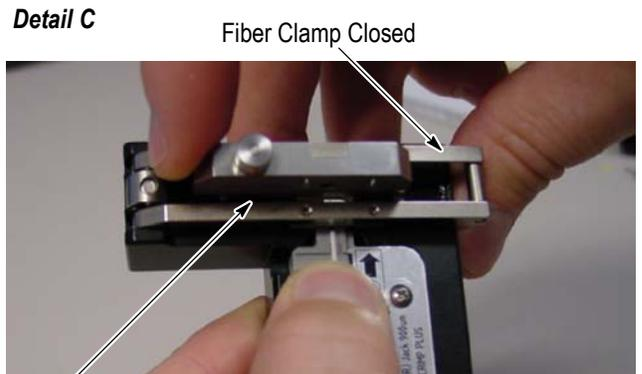

Figure 4: Crimping
C. Crimping (Figures 4 and 5)
1. Open the cable clamp of the cable holder assembly, and position the buffer (with the cleaved end facing the connector) inside the clamp. Move the buffer so that the end of the fiber is even with the front of the arm of the cable holder assembly, and holding the buffer in place, close the clamp. See Figure 4, Detail A.
2. Carefully insert the fiber into the plunger of the connector assembly until the fiber bottoms against the internal fiber. Make sure that the remaining mark on the buffer enters the plunger. The resultant bend in the buffer should hold the fiber against the internal fiber. See Figure 4, Detail B.
5. With the connector assembly in the cable holder assembly, position the ferrule or termination cover in the upper cavity of the front die and the plunger in the upper cavity of the rear die. See Figure 4, Detail C.
CAUTION *The arrows marked on the front die indicate the direction that the ferrule or termination cover must be pointing when the connector is positioned in that cavity. For proper placement, and to avoid damage to the fiber, the direction of the arrows must be observed. Refer to Figure 4, Details C and D.*
7. Position the plunger of the connector assembly in the first (smallest) cavity of the front die with the knurl against the edge of the groove in the die and the ferrule or termination cover pointing in the direction of the arrow. See Figure 4, Detail D.
1. Open the cable clamp of the cable holder assembly, and position the fiber (with the cleaved end facing the connector) inside the clamp. Move the fiber so that the end of the fiber is even with the front of the arm of the cable holder assembly, and holding the fiber in place, close the clamp. See Figure 4, Detail A.
2. Carefully insert the fiber into the plunger of the connector assembly until the fiber bottoms against the internal fiber. Make sure that the remaining mark on the fiber enters the plunger. The resultant bend in the fiber should hold the fiber against the internal fiber. See Figure 4, Detail B.
The arrows marked on the front die indicate the direction that the ferrule or termination cover must be pointing when the connector is positioned in that cavity. For proper placement and to avoid damage to the fiber, observe the direction of the arrows. Refer to Figure 4, Details C and D.